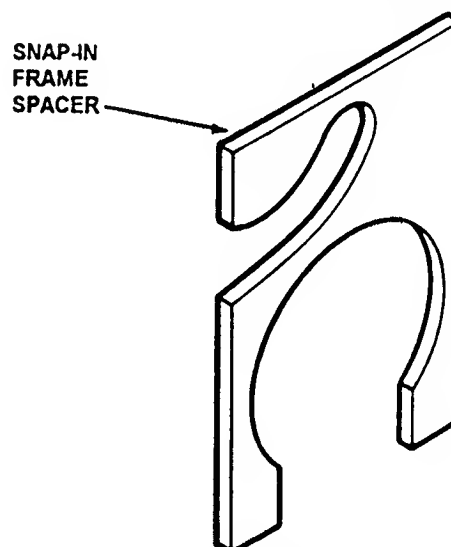

FIGURE 4.3
- c. Install required number of snap-in frame spacers behind channel pivot until the 1-1/4" distance between belt is maintained. See Figure 4.3.